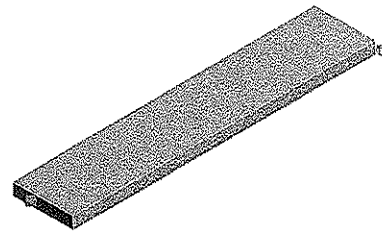

Figure 9-14 Selecting the edge for applying a Force Load
11. In the Graphics screen, select the edge, just opposite to the face on which you have applied the Fixed support, refer to Figure 9-14.